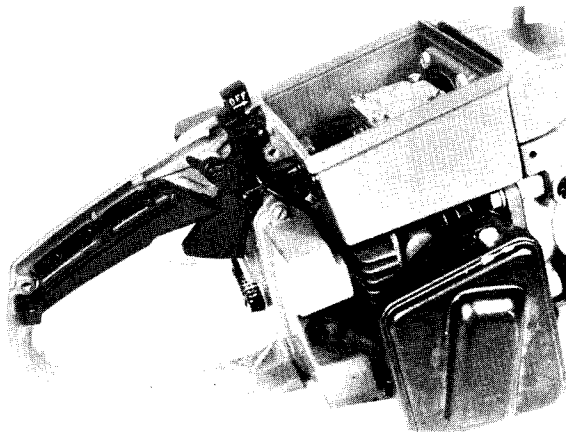

Fig. 28 — Handle Cover Removed
6. Remove handle cover and air filter bracket, Fig. 28.